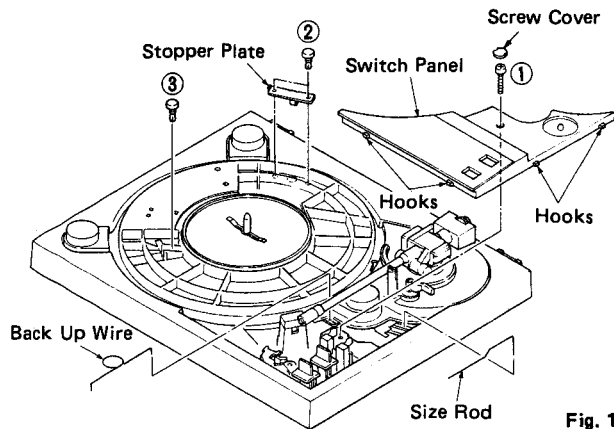

Fig. 1
1. Removal of Float Panel (A)
- b. Remove screw (①) in Fig. 1.
- c. Release 4 hooks in Fig. 1, and then remove the Switch Panel.
- e. Remove 2 plastic rivet (②) in Fig. 1, and Remove the Stopper Plate.
- f. Remove plastic rivet (③) in Fig. 1 and Slide Float Stopper inside.